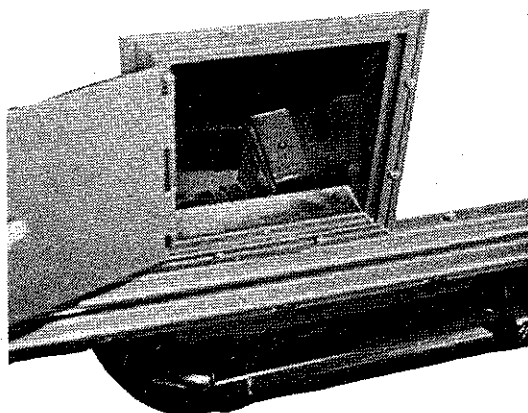

Figure 5-5. Location of Holding Tanks Drain Valve
2. Remove the safety cap from the single discharge connection by turning the locking ring in a counter-clockwise direction and connect the 3-inch sewer hose coupling to the end of the valve. Tighten locking ring securely, in a clockwise direction. The sewer hose is stored within a tube accessible through a compartment door located above the drain cap, figure 5-5. Place the discharge end of the hose into the sewer connection and check that all connections are secure to prevent accidental spillage.